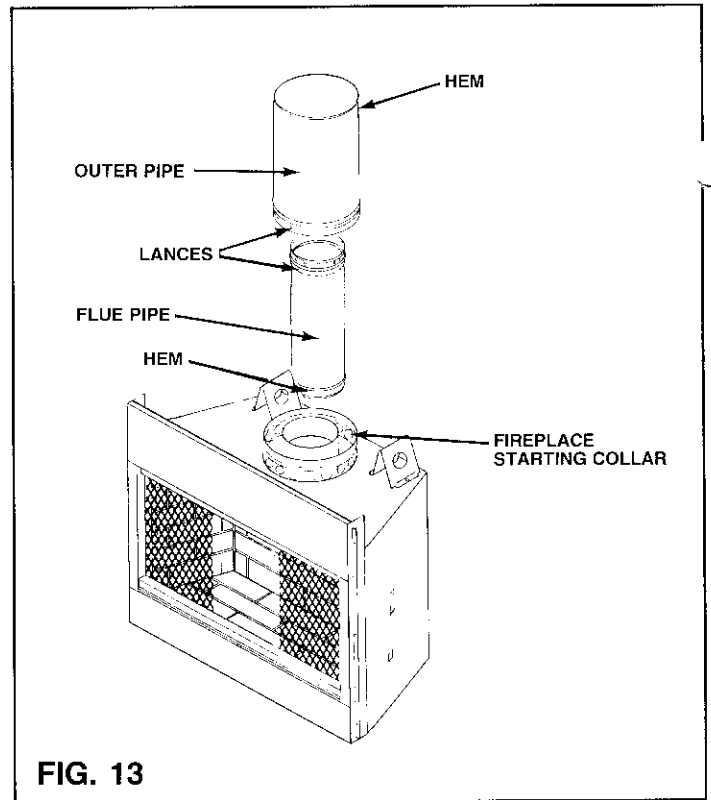

FIG. 13
STEP 1: When starting the chimney directly on the fireplace, the flue pipe section must be installed first, with the hemmed end down. The outer pipe section can then be installed over the flue pipe section with the hemmed end up (see Fig. 13).